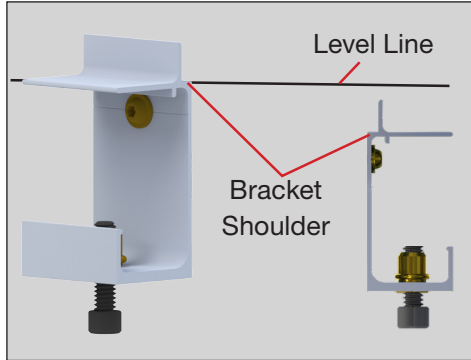

Fig. 4
- Wall Fastening: Using hardware appropriate for your wall type (not included), fasten standoff brackets to the wall. Fasten to wall studs* when spacing allows. Align bracket "shoulder" with the marked level lines. (Fig. 4)